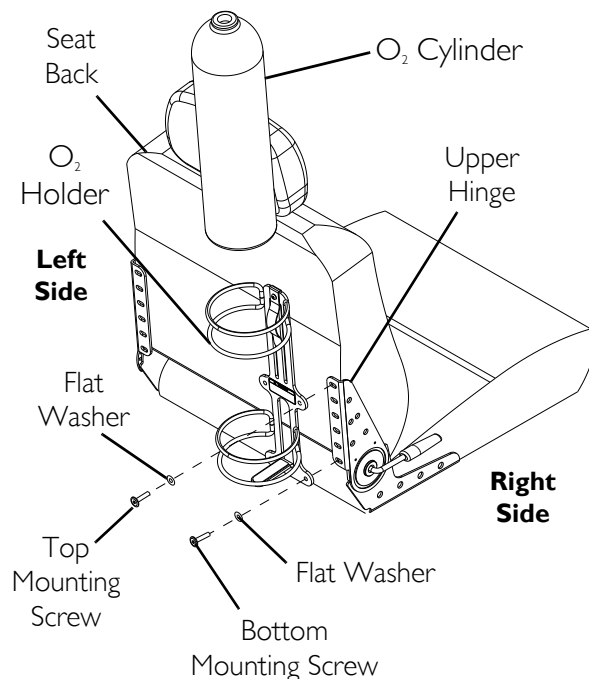

FIGURE 13.2 Installing/Removing the Oxygen Holder
NOTE: For this procedure, refer to FIGURE 13.2.
2. Align the O₂ holder mounting holes with the mounting holes in the upper hinge and seat back as shown in FIGURE 13.2.